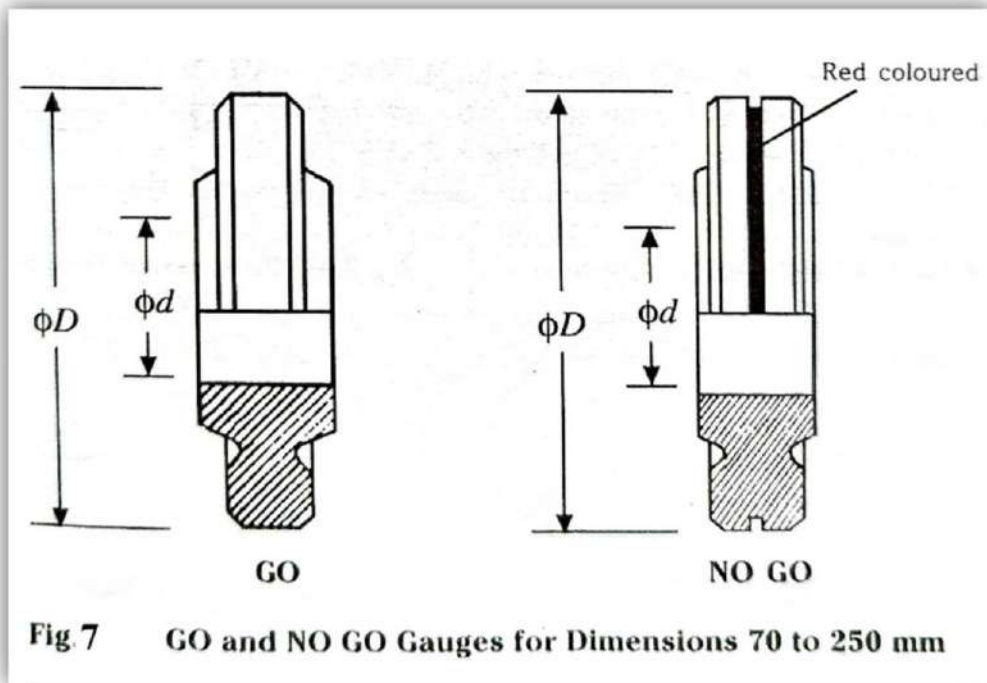

Fig. 7 GO and NO GO Gauges for Dimensions 70 to 250 mm
- And for the range 70 to 250 mm in 17 steps are as shown in **Fig. 7.**